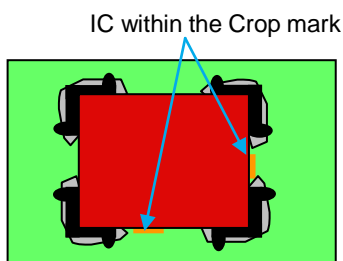

Figure 10
- Apply Flux on BGA and place IC with reference to the PCB crop mark as shown in Figure 10.